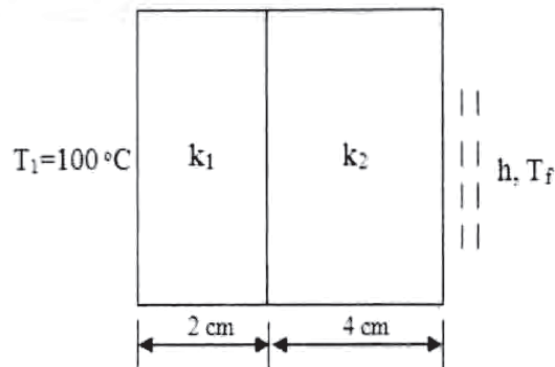

Figure 4
- b) Find the nodal temperatures in a composite wall shown in Figure 4. The wall is maintained at  $100^{\circ}\text{C}$  at the left face and convection mode of heat transfer occurs between the right face and the existing fluid. Given: thermal conductivities,  $k_1 = 0.06 \text{ W/cm } ^{\circ}\text{C}$ ,  $k_2 = 0.2 \text{ W/cm } ^{\circ}\text{C}$ . Convection coefficient of heat transfer between walls and fluid  $h = 0.1 \text{ W/cm}^2 \text{ } ^{\circ}\text{C}$  and  $T_f = 25^{\circ}\text{C}$ . Area  $A = 1 \text{ cm}^2$  perpendicular to the direction of heat flow. [10]